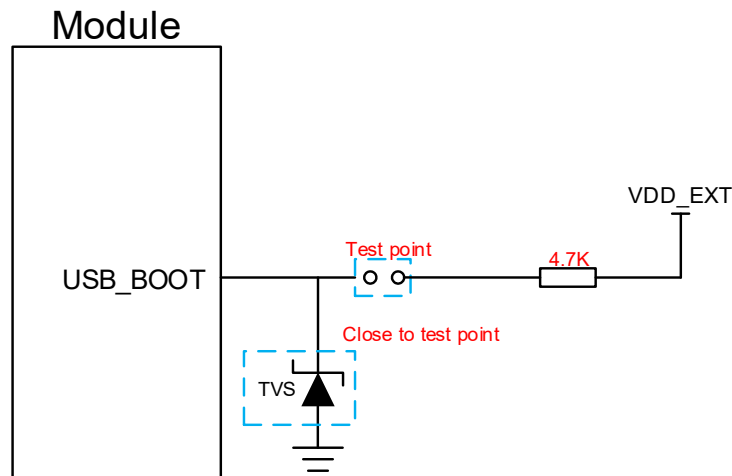

Figure 17: Reference Circuit of USB_BOOT Interface
2. When using MCU to control module to enter the emergency download mode, please follow the above timing sequence. It is not recommended to pull up FORCE_USB_BOOT to 1.8 V before powering up VBAT. Directly connect the test points as shown in **Figure 17** can manually force the module into download mode.
4.3. (U)SIM Interface